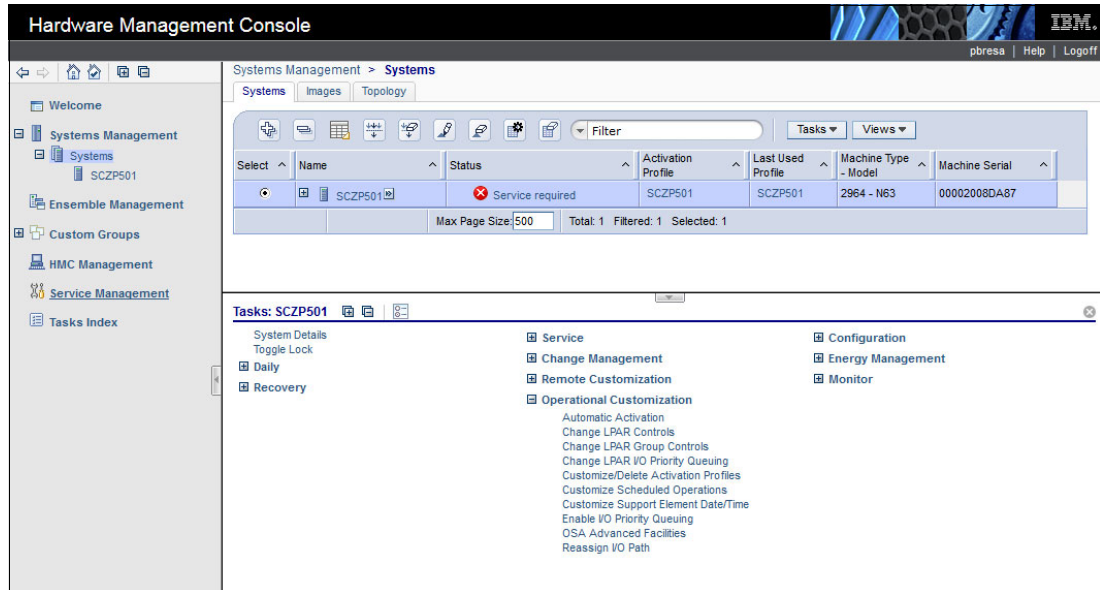

Figure 7-94 HMC - Customize Activation Profiles
4. On the Tasks tab, click **Operational Customization** to expand it, and select **Customize/Delete Activation Profiles** (Figure 7-94 on page 416).